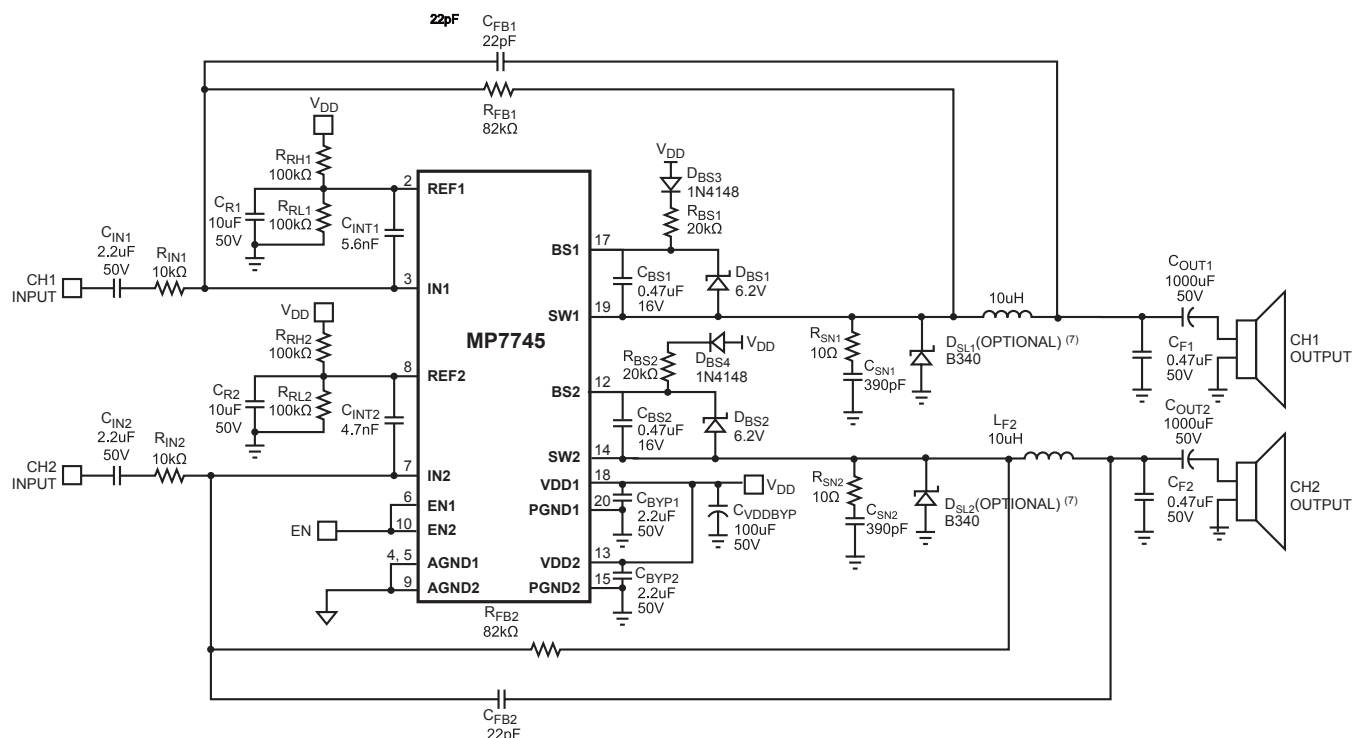

Figure 1—2 x 20W Stereo Typical Application Circuit
The MP7745 uses a minimum number of external components to complete a stereo Class D audio amplifier. The circuit of Figure 1 is optimized for a 24V power supply. This circuit should be suitable for most applications. However, if this circuit is not suitable, use the following sections to determine how to customize the amplifier for a particular application.
**Table 1—Switching Frequency vs.  $V_{DD}$ , Timing Capacitor and Feedback Resistor (see Figure 1)**
The Inductor-Capacitor (LC) filter converts the pulse train at SW to the output voltage that drives the speaker. Typical values for the LC filter are shown in Figure 1, 10 $\mu$ H inductor and 0.47 $\mu$ F capacitor.